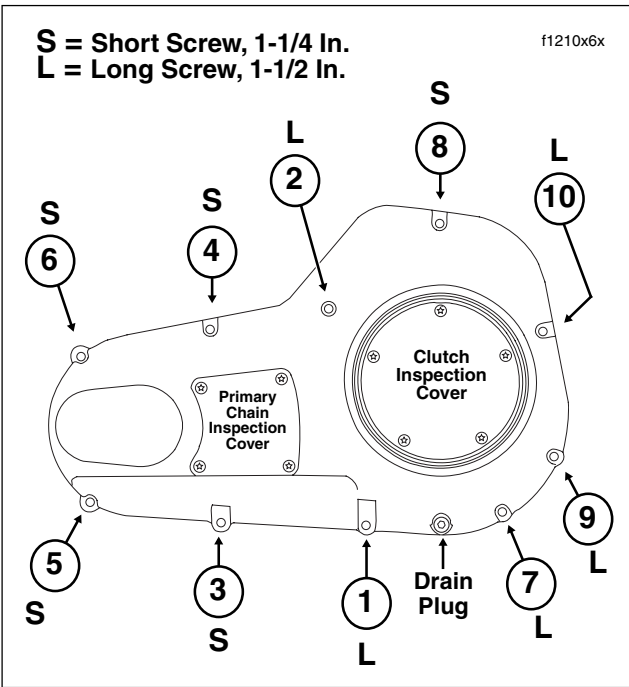

Figure 6-32. Primary Chaincase Cover Torque Sequence and Screw Size
21. Start ten allen head socket screws (five long, five short) with flat washers to install primary chaincase cover. Tighten screws to 84-108 **in-lbs** (10-12 Nm) in the numerical sequence shown in Figure 6-32.